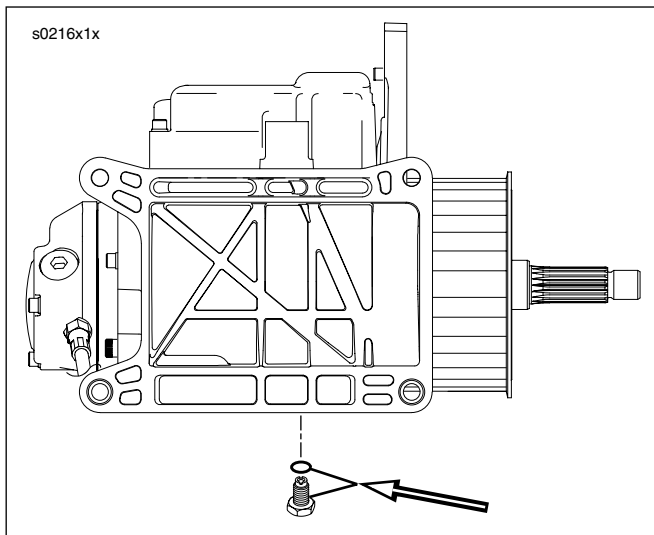

Figure 52. Transmission Drain Plug And O-ring
2. See Figure 52. Remove transmission drain plug and drain lubricant into a suitable container.